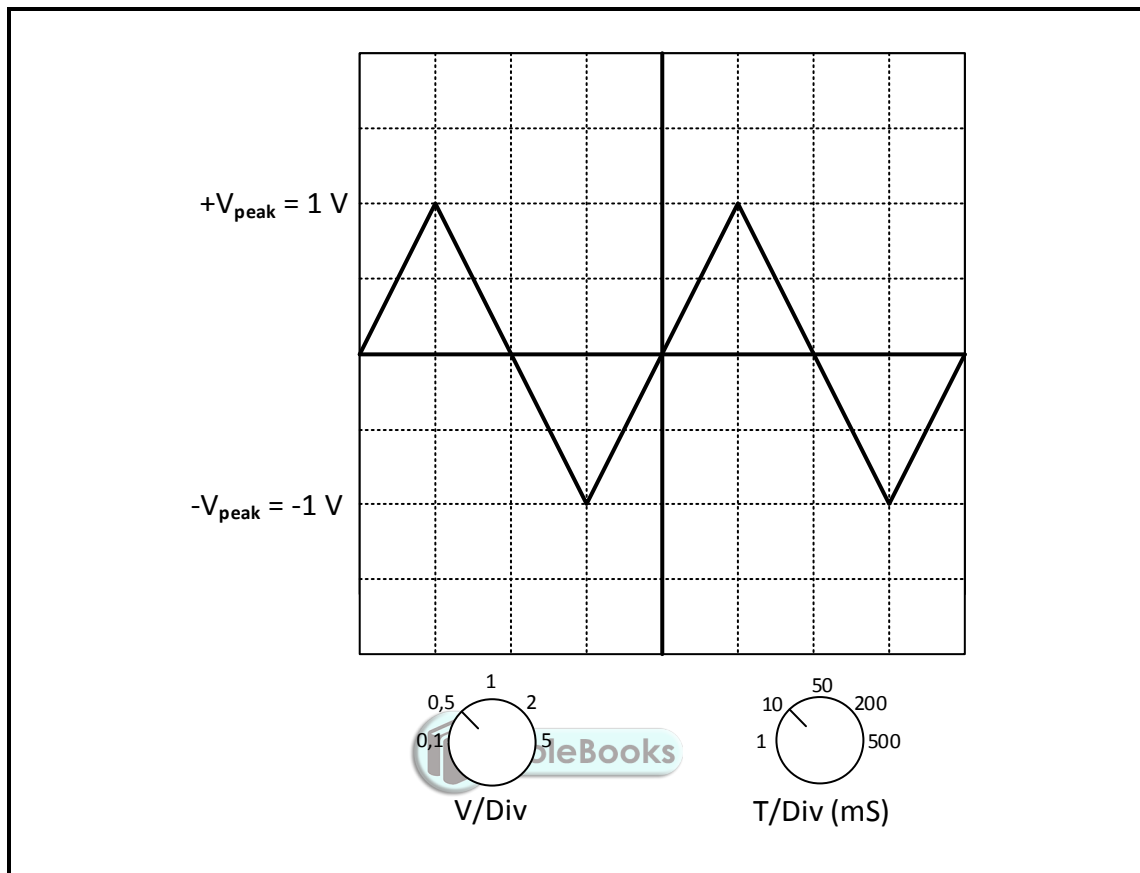

FIGURE 2.10: OUTPUT WAVEFORM
- 2.10 FIGURE 2.10 below shows the output waveform of a passive RC-integrator displayed on the screen of an oscilloscope. Refer to the figure below and answer the questions that follow.